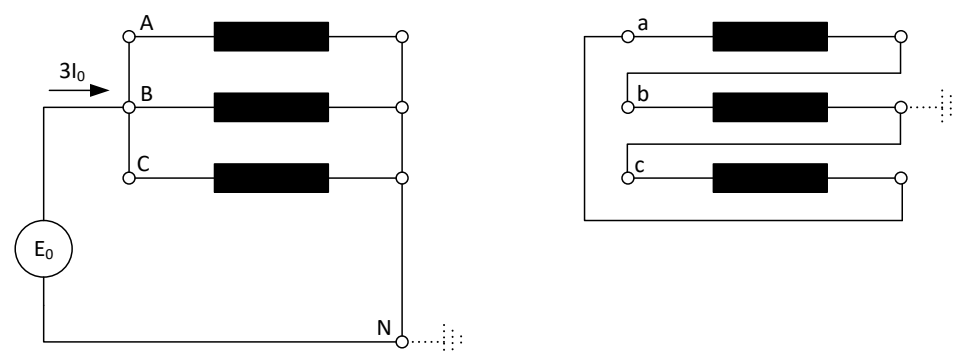

Figure 2: Test circuit for Yn-d winding pair. Determination of  $Z_{012}$ .
7. For each test, the test circuit shall be explained in the test report, preferably by an illustration (ref. Figure 2 onwards)